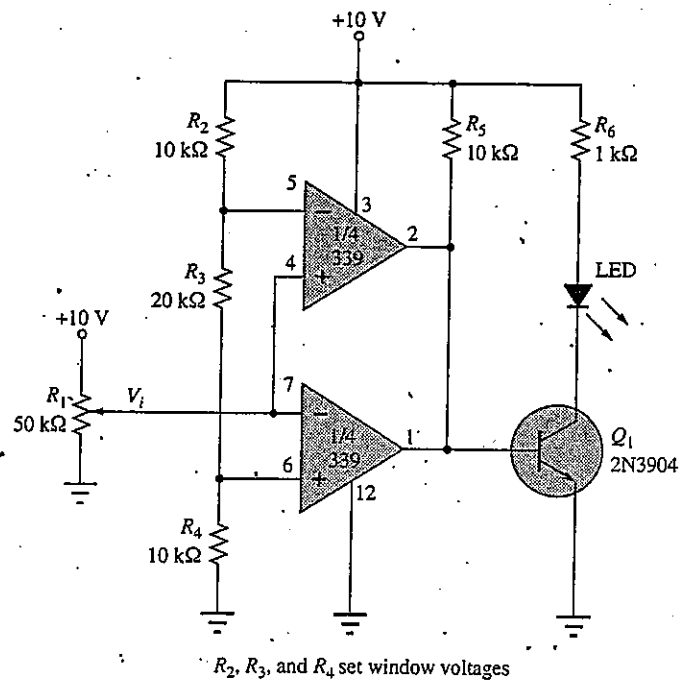

Figure 30-3
Figure 30.3 shows two comparator stages connected as a window detector—a circuit which provides indication of whenever the input voltage is within a specified range of voltage.
- a. For the circuit of Fig. 30.3 calculate  $V^+$  (pin 5) and  $V^-$  (pin 6).
- b. Construct the circuit of Fig. 30.3. (Measure and record resistor values in Fig. 30.3.)